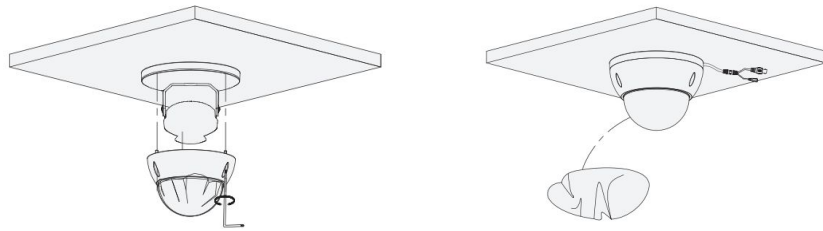

Figure 2-6
Step 6 Install the Dome cover. Remove the protective film on the lens. See Figure 2-6.